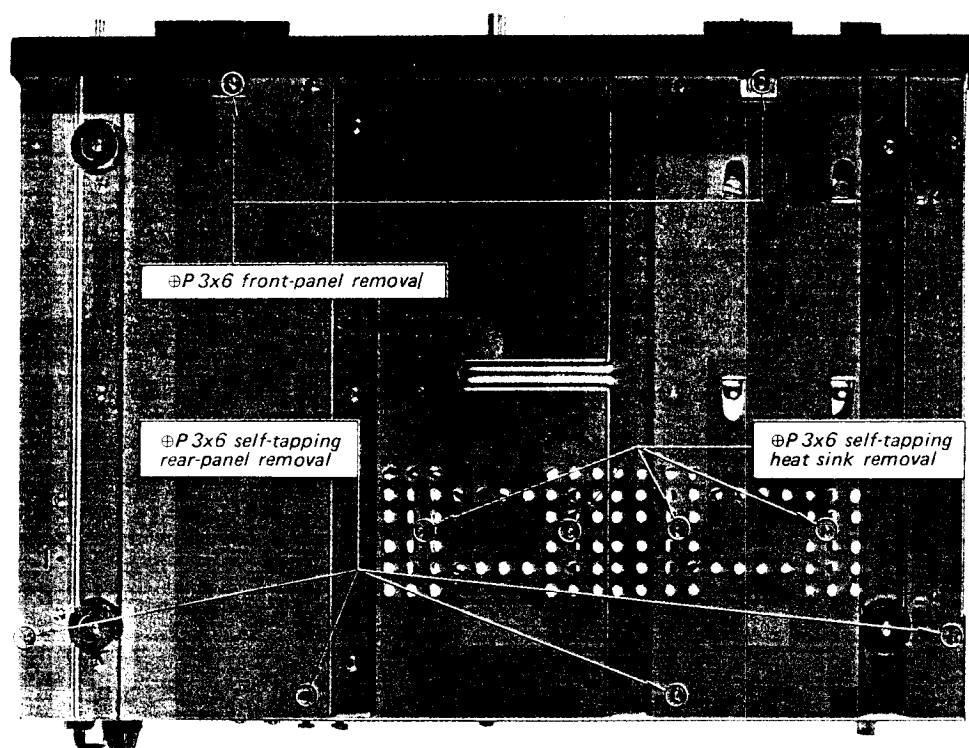

Fig. 2-4 Bottom view
5. Remove the two screws ($\oplus$ P 3x6) from the front bottom edge of the amplifier securing the front panel to the front subchassis, as shown in Fig. 2-4. This frees the front panel.
2. Remove the four self-tapping screws ($\oplus P 3 \times 6$) securing the rear panel to the bottom plate, as shown in Fig. 2-4. This frees the rear panel.
2. Remove the two self-tapping screws ($\oplus$ P 3x6) securing the heat sink to the bottom plate as shown in Fig. 2-4.